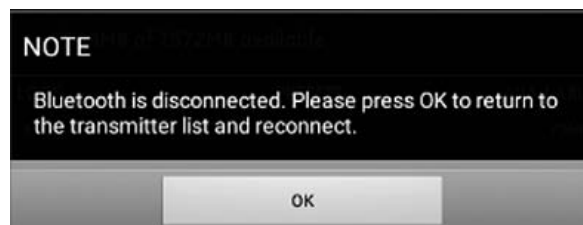

Figure 124: Transmitter Reconnection Screen
6. After the transmitter reboots, the message shown in *Figure 124* below will pop up. Click the OK button to reconnect the transmitter.